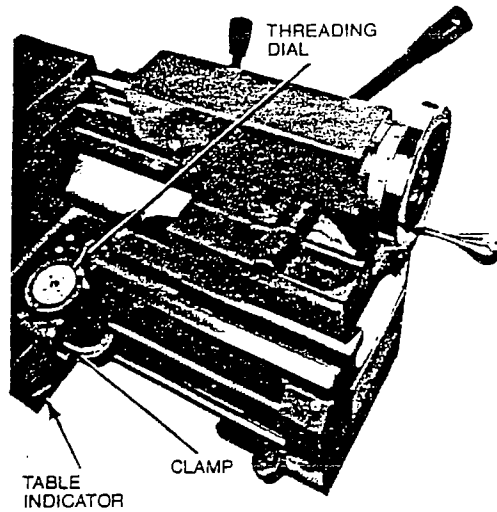

FIGURE 26
9. To avoid unnecessary wear on gear, loosen clamp (Figure 26); and swing threading dial away from leadscrew when not in use.